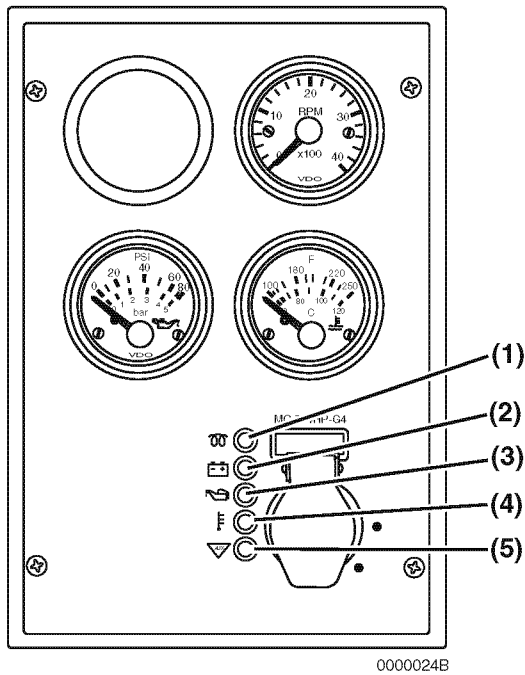
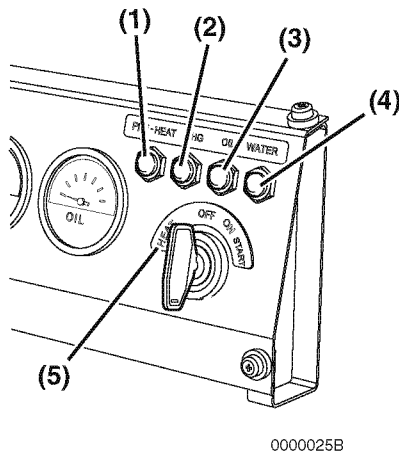

Figure 9
Figure 10
HEAT indicator (Figure 9, (1)) - The pre-heat function is automatically activated when the key switch is turned to the ON position. The indicator flashes for several seconds (4 sec. for IDI models with glow plugs, 15 sec. for DI models with glow plugs or air heater) and when it goes out you can turn the key switch to START.
HEAT indicator (Figure 10, (1)) - Note that on this type of panel you must turn the key to the HEAT position (Figure 10, (5)) to activate the inlet air heater or glow plugs. The indicator will flash for several seconds (4 sec. for IDI models with glow plugs, 15 sec. for DI models with glow plugs or air heater) when you turn the key to HEAT and when it goes out, you can turn the key switch to START.
Battery Charge (Figure 9, (2)) or (Figure 10, (2)) - This indicator will come on if there is a problem in the charging system. This indicator does not indicate if the battery is discharged. See *Troubleshooting Chart on page 98*.
Engine Oil Pressure (Figure 9, (3)) or (Figure 10, (3)) - This indicator will come on if the engine oil pressure is below or exceeds normal limits. See *Troubleshooting Chart on page 98*.
Engine Coolant Temperature (Figure 9, (4)) or (Figure 10, (4)) - This indicator will come on if the engine coolant temperature exceeds normal limits. See *Troubleshooting Chart on page 98*.
Auxiliary (Figure 9, (5)) - Used for special applications.